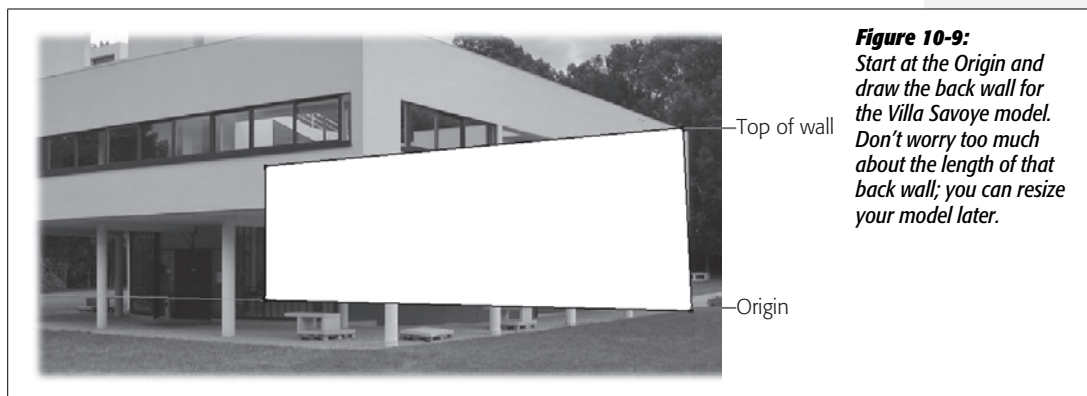

Figure 10-9:
1. With the Rectangle (R), click the Origin, and then draw a rectangle for the back wall of Villa Savoye as shown in Figure 10-9.